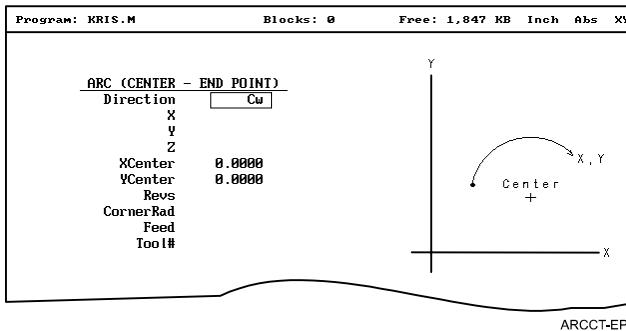

Figure 3-13, ARC (CENTER – END POINT) Graphic Menu
1. In Edit Mode, press **3/ARC** to display the **ARC (CENTER – END POINT)** graphic menu. Refer to **Figure 3-13**.